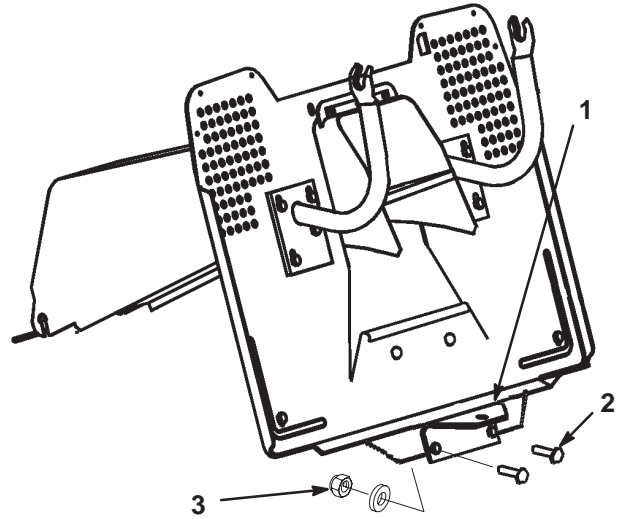

**Figure 2**
3. Set the seat in place and secure it with the two bolts, spring washers, and flat washers (Fig. 2).
4. Connect the safety switch to the seat (Fig. 2).